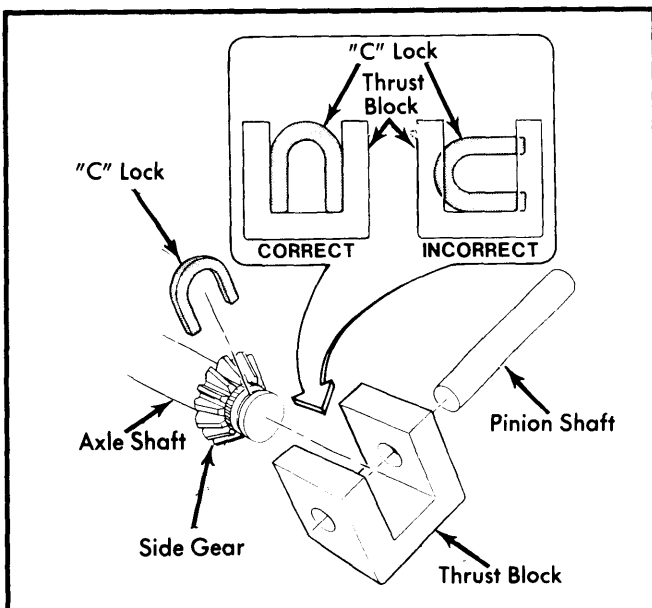

Fig. 3 View Showing Correct Positioning of "C" Lock for Removal
2) After installing axle shaft and "C" lock, pull axle shaft outward so "C" lock seats in side gear counterbore. On models equipped with Eaton positive traction differential, make sure "C" lock is correctly positioned in thrust block. See Fig. 3.